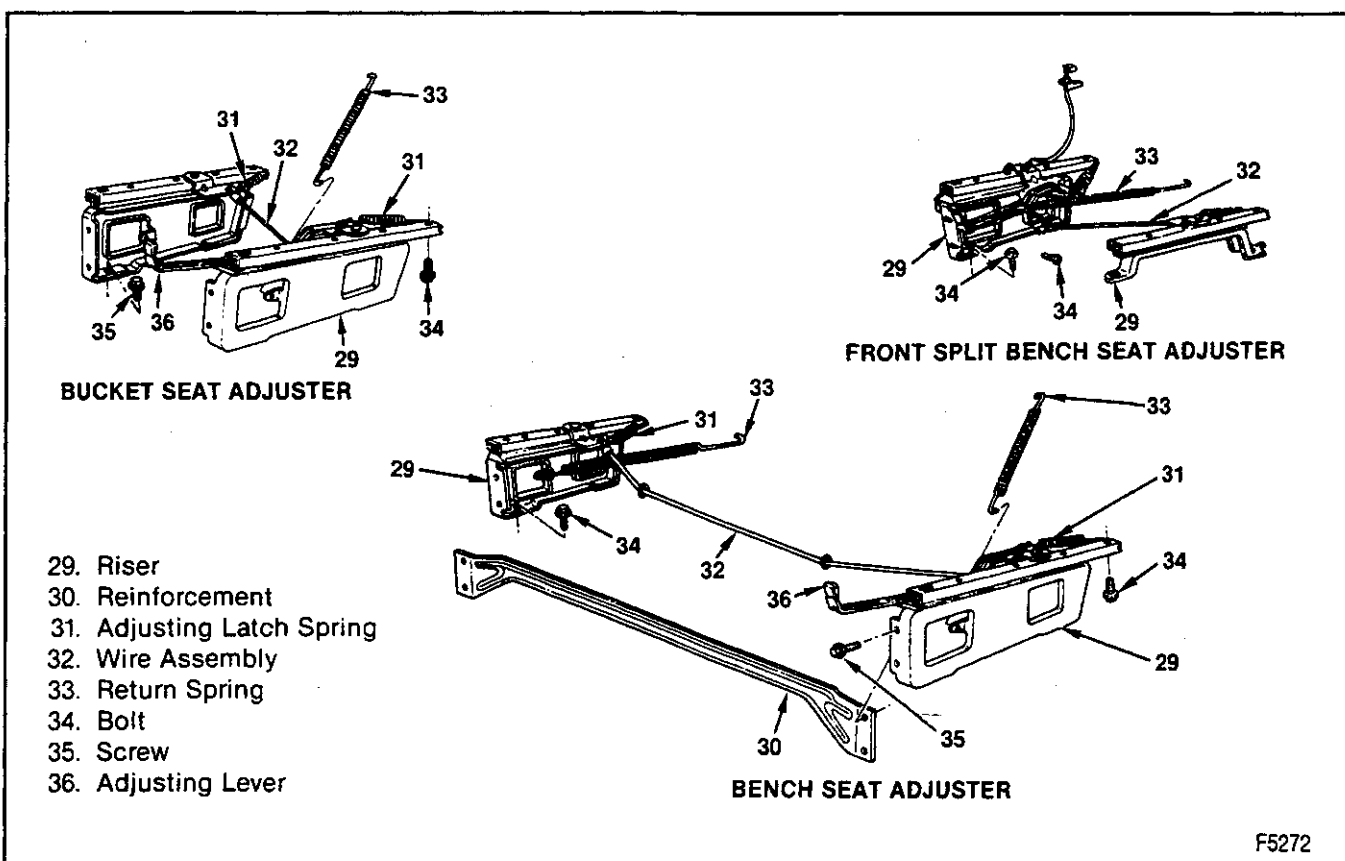

Figure 2—Manual Seat Adjusters
Remove or Disconnect (Figures 2 and 3)
**Install or Connect (Figures 2 and 3)**